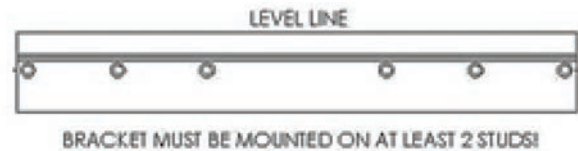

Figure 4 - Wall Mounting Bracket - NOTE: Drawing for Demonstration Purposes Only
a. The building frame (studs) must be 2 X 4 minimum and 16" on center (24" on the EFT-399). If not, you must use 1/2" minimum plywood 24" x 48" with at least fourteen (14) #12 x 3" (3/16" x 3") round head tapping screws to the frame of the building to provide proper support for the boiler. No alternate methods of mounting or fastening (ex. Toggle bolts, hollow wall anchors, or any other fastener) may be used.
d. Predrill pilot holes on the marked stud locations. The pilot holes for bare studs should be 2" deep for all EFT models. See table below for pilot hole diameter by wood type. Increase length for any material covering the stud. Ensure that the predrilled holes are straight and square to the wall. Failure to do so could lead to insufficient support or out of level boiler. See Figure 4.
c. Predrill holes on the marked stud locations. The predrilled holes should be 1/2" in diameter for 3/16" bolts, and 3/4" in diameter for 3/8" bolts, to allow for the collapsed wings of the toggle to slide through. Ensure that the predrilled holes are straight and square to the wall. Failure to do so could lead to insufficient support of out of level boiler. See Figure 4.